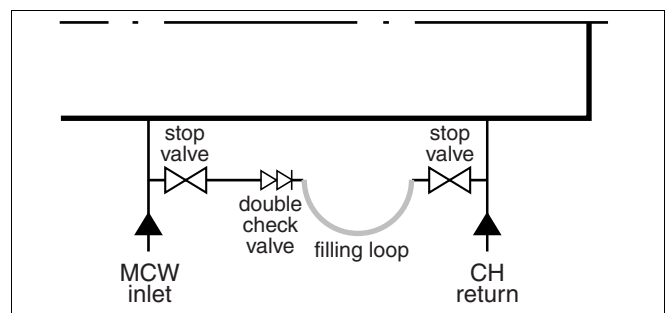

fig. 39 Connecting filling loop
- Connect filling loop (fig. 39).
- Open both stop valves (fig. 39).